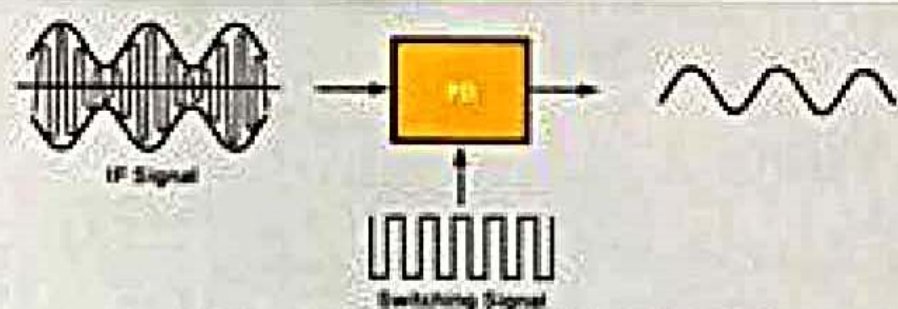

Fig. 2 CONCEPTUAL OPERATION OF SYNCHRONIZED PRODUCT DETECTOR
Fig. 2 shows how the AM IF signal is switched with a signal of the same frequency and phase as the IF signal, and how better quality AM audio signals can be obtained. Fig. 3 shows the main elements of the Synchronized Product Detector—the PLL circuit is composed of the Phase Detector (PD), Low Pass Filter (LPF) and the Voltage-Controlled Oscillator (VCO). It generates signals of the same frequency as the input IF signal with phase locked.